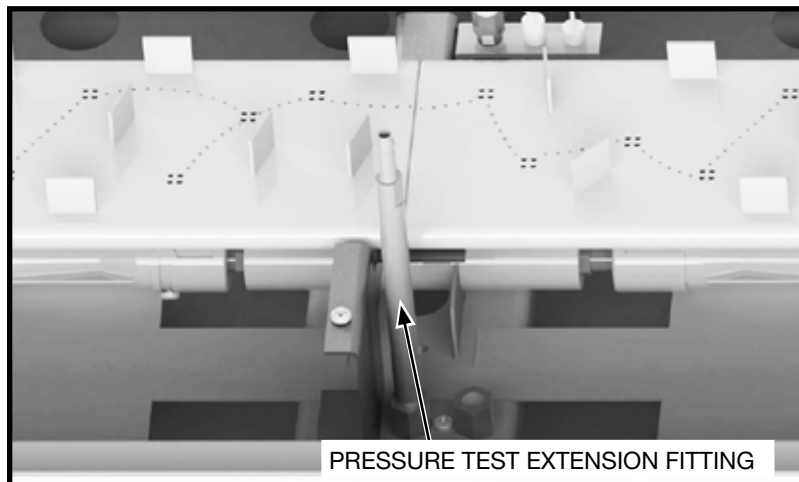

Figure 93: Pressure test extension fitting.
3. Thread the extension test fitting into the open port (Figure 93).